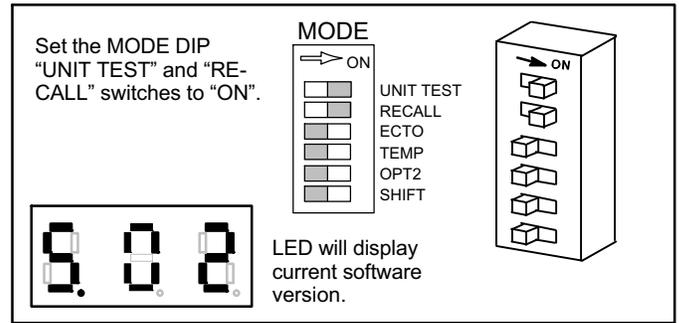

Figure 4. Check Software Version and Address
- Set the MODE DIP “UNIT TEST” and “RECALL” switches to “ON”. See figure 4.